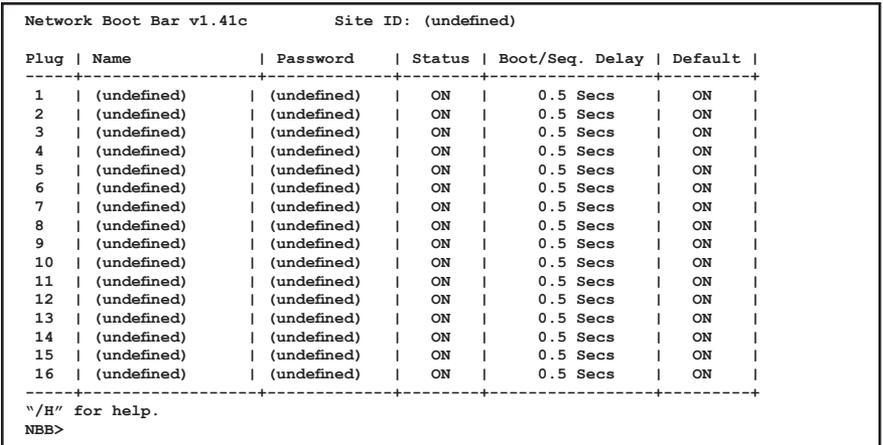

Figure 3.2: Plug Status Screen - Text Interface
- i. **Via Telnet:** Telnet to the default IP address (192.168.168.168). The Plug Status Screen (Figure 3.2) should be displayed.
- ii. **Via Local PC:** Start your communications program (e.g., Hyperterminal) and press **[Enter]**. The Plug Status Screen should be displayed (Figure 3.2.) The default parameters for the Console Port are 9600 bps, No Parity, 8 data bits, One stop bit.